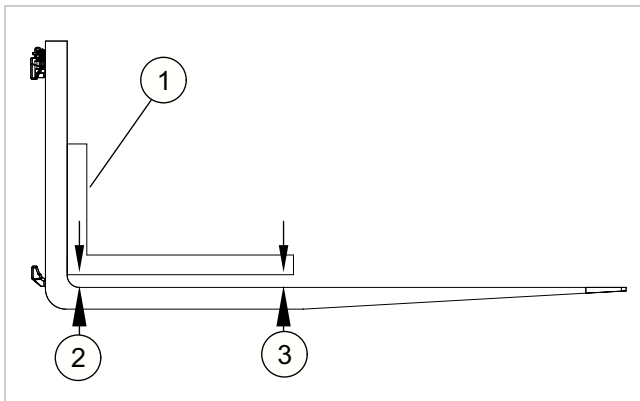

Fig. 9 (16862-02)
1. See Figure 9. Hold the square (1) against the shank above the radius of the fork heel.